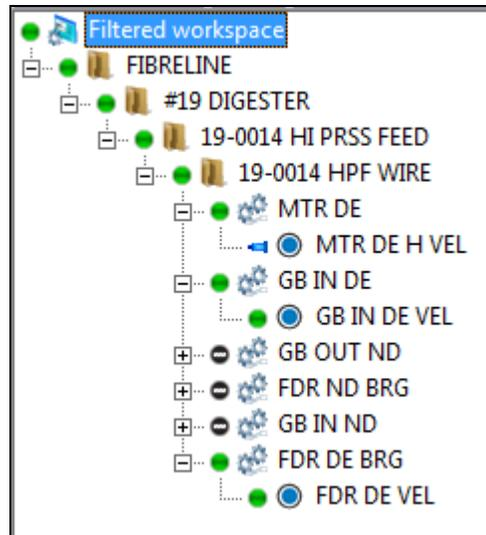

Figure 4. Filtered workspace
- A new **Filtered workspace** window will open with the output. [Figure 4]